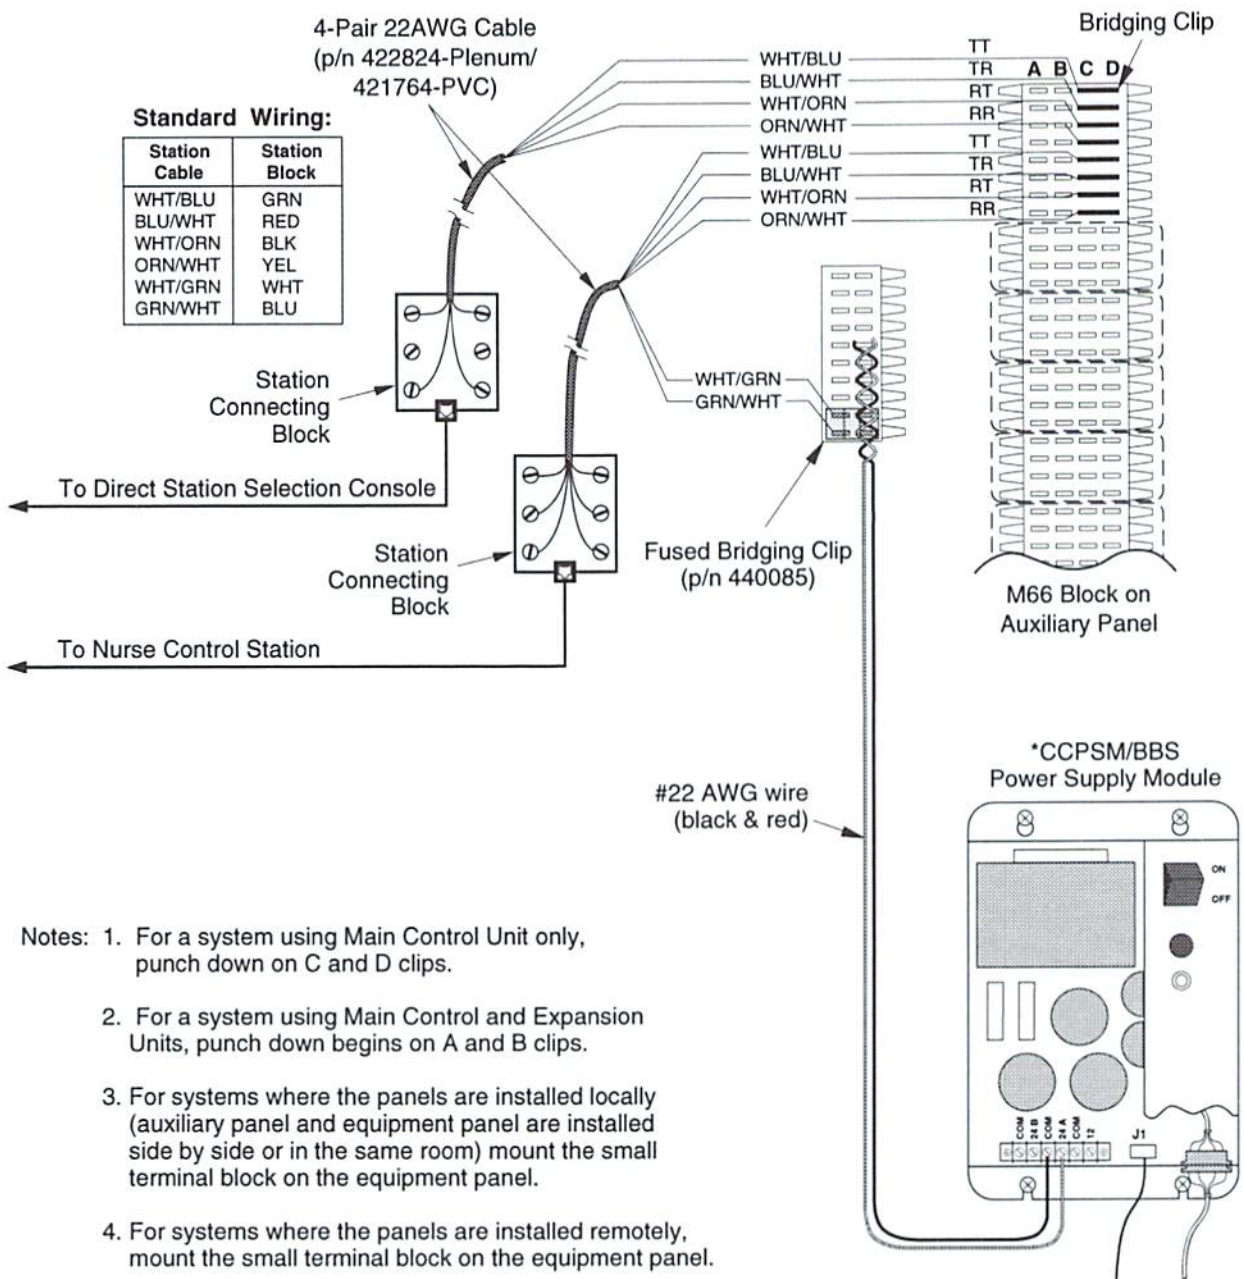

Figure 4. Connecting up to 6 NCSs at the Central Equipment
- b. Connect the white/blue, blue/white, white/orange, and orange/white lead from the 4-pair cable to each of the A column clips in the sequence illustrated in Figure 4.
- d. Connect two #22AWG wires to the terminal block (black and red) by punching down on the inside clip and alternating each clip with each wire, as seen in Figure 4. Each wire should be punched down only three times on the block. Note, make sure the wire is long enough to connect to the power supply on the equipment panel.